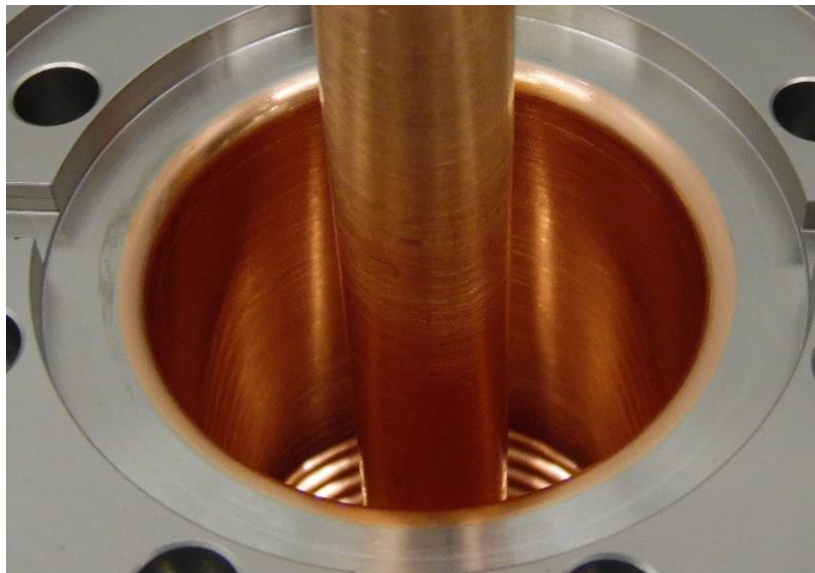

Figure 7.5: Inner copper plating of FPCC
- 7.3.4. Visually inspect the regions of copper plating on the inside of the FPCC (Figure 7.5) which are visible through the cavity flange. Generate an NCR if there are any scratches, pits, blisters, or flaking copper.